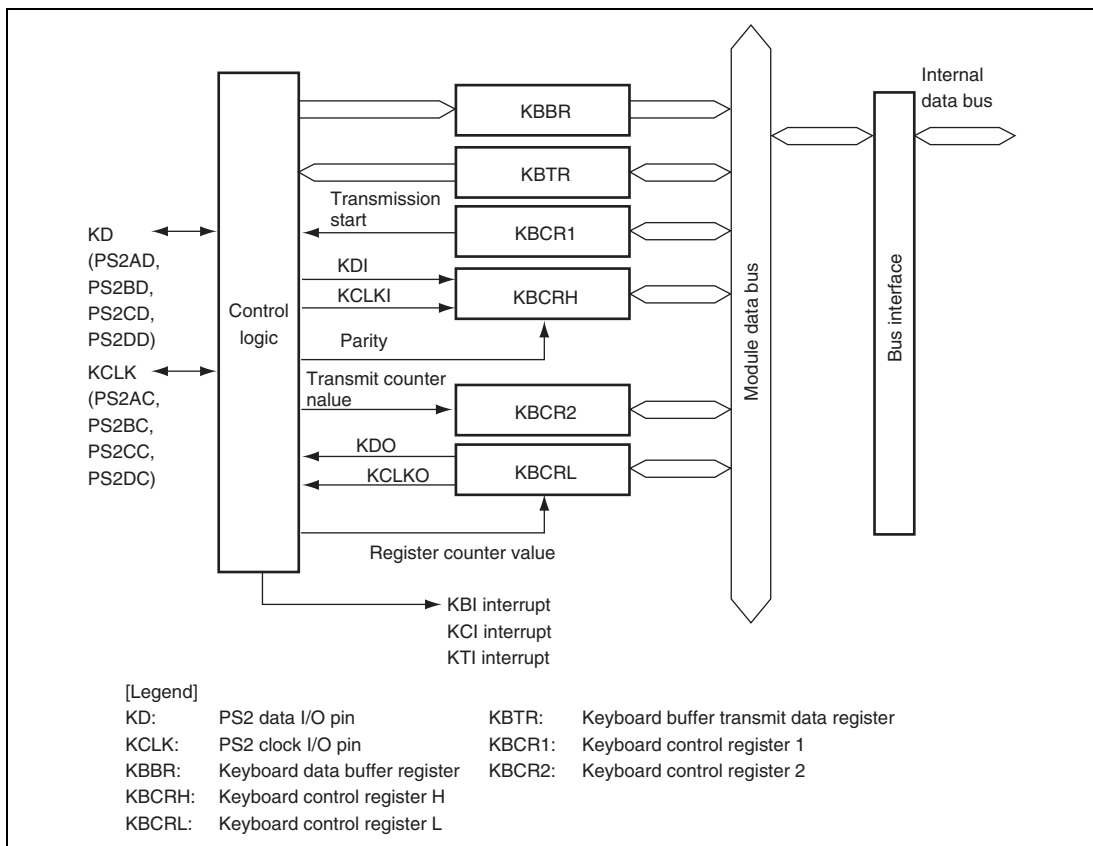

**Figure 18.1 Block Diagram of PS2**
Data transfer using the PS2 employs a data line (KD) and a clock line (KCLK), providing economical use of connectors, board surface area, etc. Figure 18.1 shows a block diagram of the PS2.